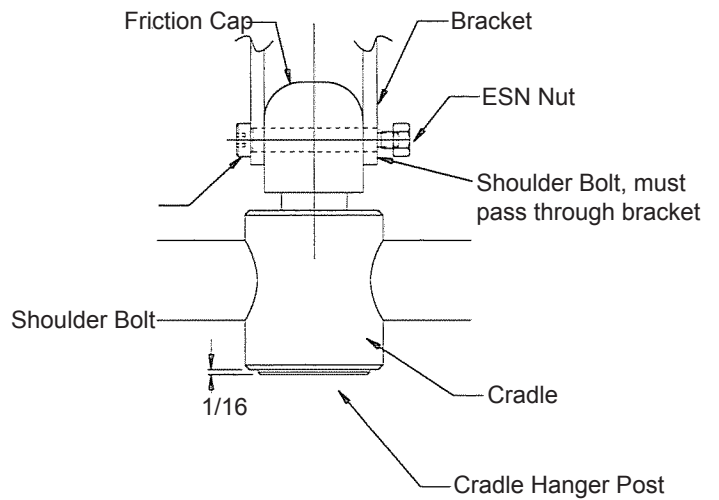

Figure 1
⚠Warning: All shoulder bolts must engage through the bracket on both sides. If bolt is not fully engaged, misalignment and premature failure may result. Worn parts could fail, resulting in injury to patient/caregiver (Figure 1).
⚠Warning: The large thrust washer must be inserted on the cradle hanger post (Figure 1). If washer is not present, the cradle hanger post and cradle center may wear prematurely. Worn cradle parts could fail, resulting in injury to resident/caregiver. Hanger post should protrude cradle center by 1/16th inch (Figure 1).
- Remove actuator from filler and attach top of actuator to mast and bottom to boom with hardware (Figure 1).